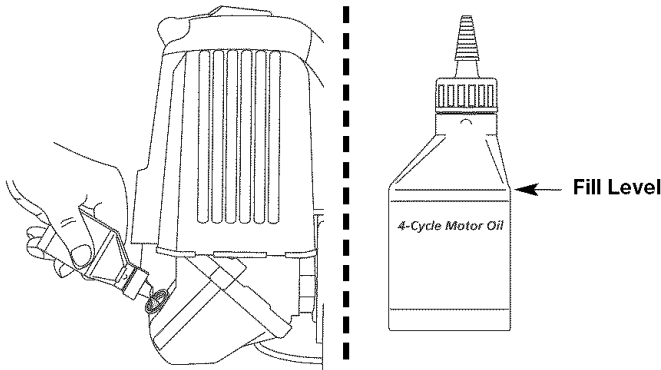

Fig. 22
- NOTE:** Use the bottle and spout saved from initial use to measure the correct amount of oil. The top of the label on the bottle measures approximately 3.04 ounces (90 ml) (Fig. 22). Check the level with the dipstick. If the level is low, add a small amount of oil and recheck. Do not overfill (Fig. 22).